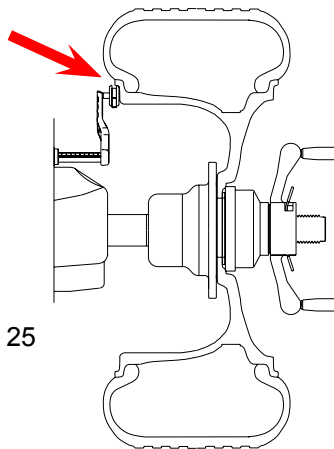

Figure 25
**4.5.4.2 Manual Distance Entry** - Move the distance gauge arm to touch the inner edge of the wheel where weights are to be placed and observe the reading on the scale of the distance gauge. See Figure 25. Press manual Wheel **Offset** button (O) followed by selecting the +/- keys until value is displayed in the display window.